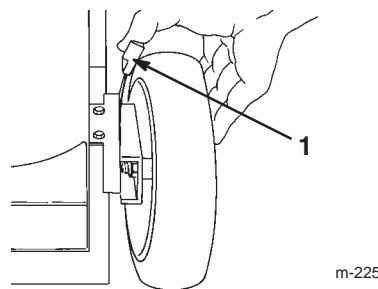

Figure 11
1. Pull the wheel height adjustment lever toward the wheel (Fig. 11) and move it to the desired setting.